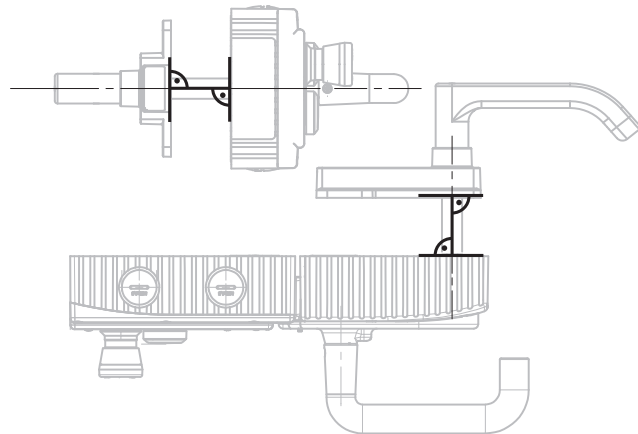

Figure 8: Installation example for door hinged on the right (general view)
- ▶ Adjust escape release axis at right angles to the handle module. See *Figure 4* and *Figure 8*.
For mounting steps, see *Figure 8* and *Figure 9* to *Figure 14*.